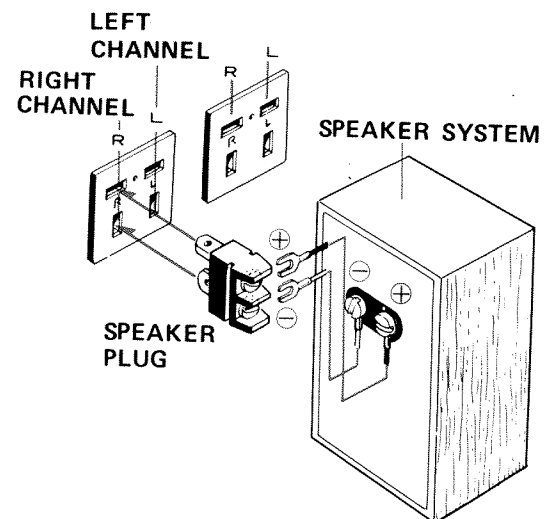

Fig. 5
- As shown in Fig. 5, connect the lead wires of the speaker system to the supplied speaker plugs. Be sure to observe the correct polarity and to cause no short between \oplus and \ominus .
- For the second (third) pair of speakers, use the B(C) speaker sockets. Connect in the same way as for the first pair.